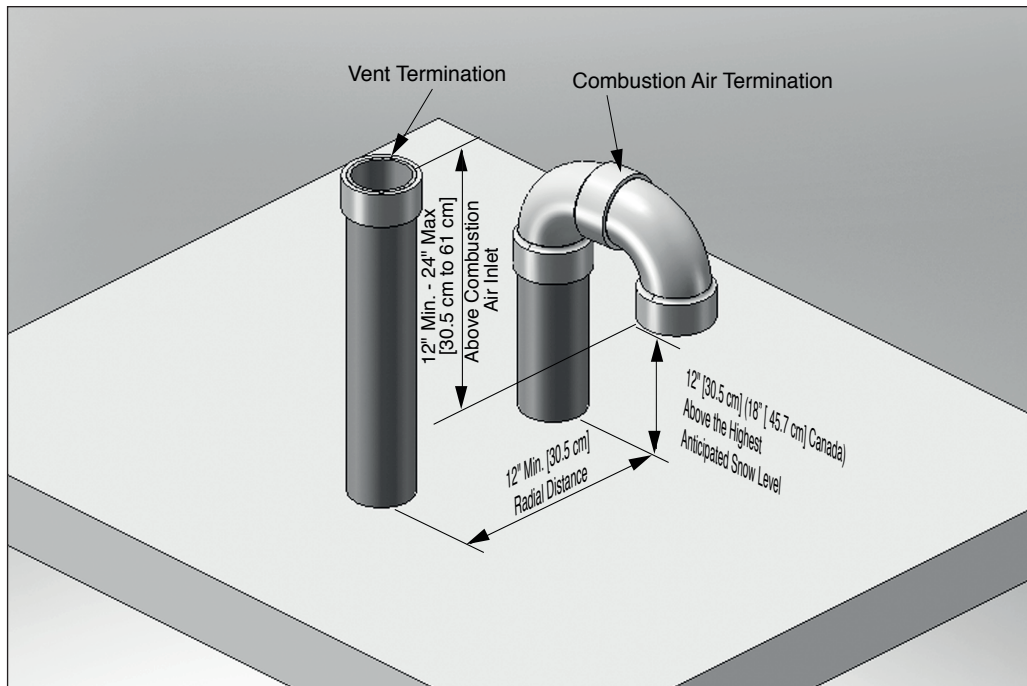

Fig. 1 - Direct Vent - Vertical Termination of Vent and Combustion Air Piping.
2. The combustion air piping must terminate in an upside down "U" shape fashion using two 90° elbows, as shown in *Fig. 1 on page 12.* The termination must be located 12" [30.5 cm] (18" [45.7 cm] in Canada) above the highest anticipated snow level.
3. The vent piping must terminate vertically with a coupling to accept the bird screen and must be located 12" to 24" [30.5 cm to 61 cm] above the combustion air inlet as shown in *Fig. 1 on page 12.*
4. The vent and combustion air terminations must be located at a radial distance of 12" to 24" [30.5 cm to 61 cm] from centerline of vent termination to centerline of air termination as shown in *Fig. 1 on page 12.*
3. Locate the vent and combustion air pipe penetrations to provide clearances as described in *Fig. 1 on page 12*.
2. The combustion air piping must terminate in an upside down "U" shape fashion using two 90° elbows as shown in *Fig. 1* on page 12.
3. The vent piping must terminate vertically with a coupling as shown in *Fig. 1* on page 12.
Do not extend the vent pipe above the roof beyond the dimensions shown in *Fig. 1* on page 12. Extended exposure of the vent pipe could cause condensate to freeze and block the vent pipe, resulting in substantial property damage, serious injury, or death.